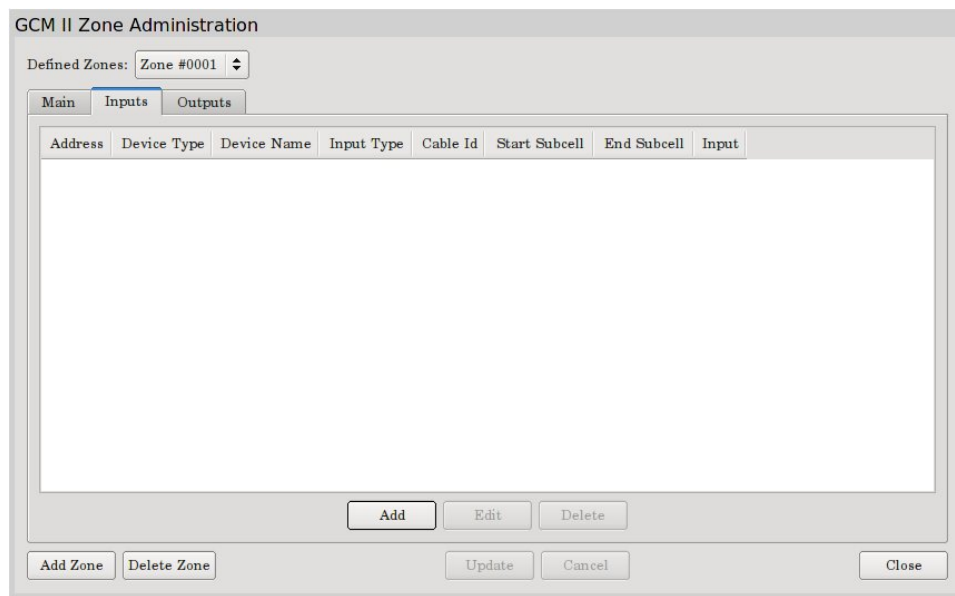

Figure 51 – Inputs Tab
Selecting the “Inputs” tab will open the Inputs Assignment screen as shown in Figure 51. On a new installation the screen should be blank except for the headers which are: Address, Device Type, Device Name, Input Type, Cable ID, Start Subcell, End Subcell and Input. *A maximum of eight (8) inputs can be assigned for any zone.*